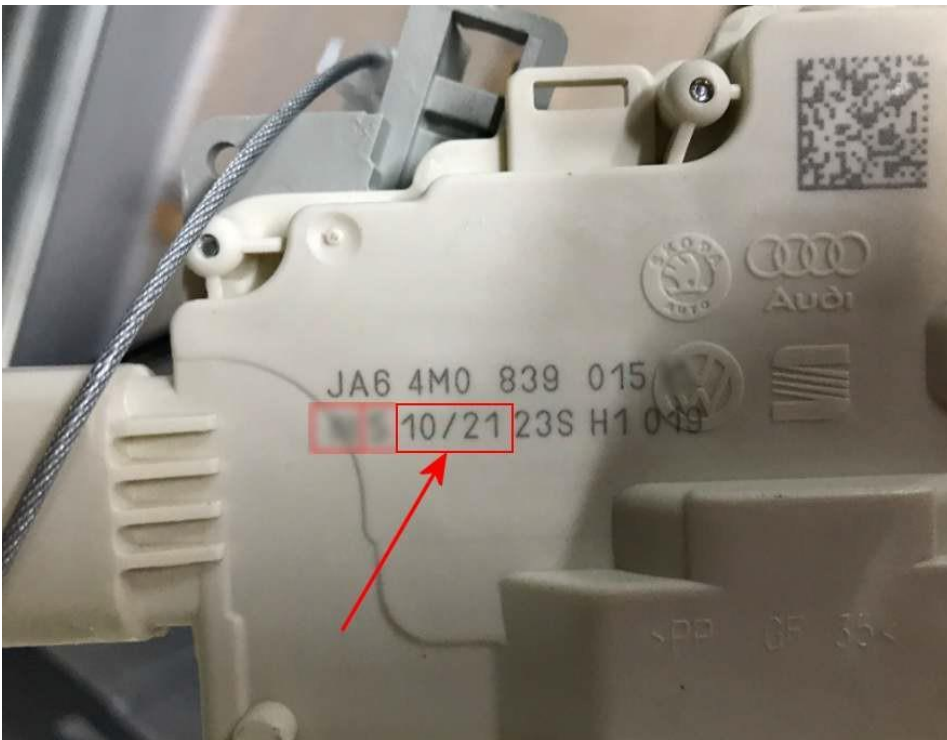

Figure 2
- 2) Referring to Figure 2 - Check the date of manufacture in the location shown